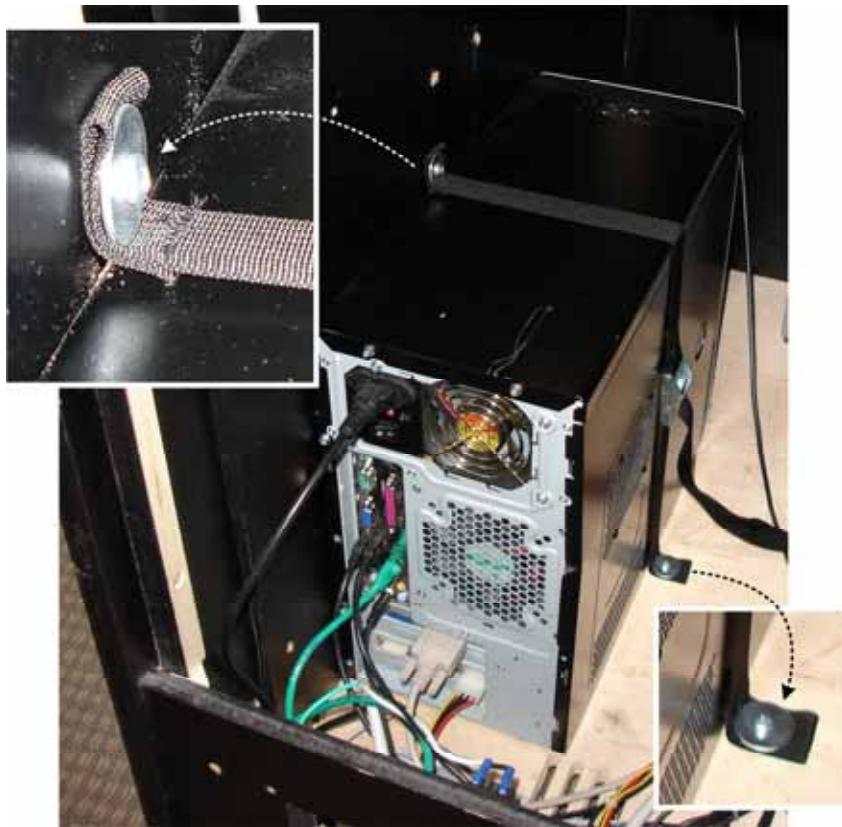

Figure 5. Securing the Computer
3. Refer to Figure 5 for an example of how to secure the computer with the mounting strap. Using the two (2) #10 x 3/4" wood screws with fender washers from the kit, secure the ends of the strap as close as possible to the top and side of the computer. Make sure the two parts of the strap are lined up so they will buckle near the center of the computer. Buckle and tighten the strap.